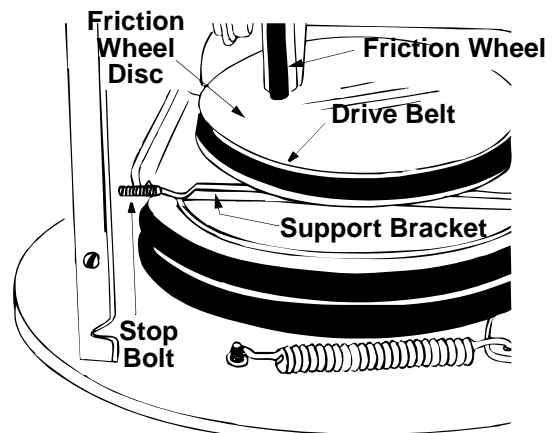

Figure 31
7. Back out the stop bolt to allow the belts to slip between the bolt and auger pulley. See Figure 31.
8. Lift the rear auger belt from the auger pulley, and slip belt between the support bracket and the auger pulley. See Figure 31. Repeat this step for front auger belt.
3. Back out the stop bolt until the support bracket rests on the auger pulley. See Figure 31.
4. Slip belt between friction wheel and friction wheel disc. See Figure 31. Remove and replace belt. Reassemble following the instructions in reverse order.
**NOTE:** The support bracket must rest on the stop bolt after the new belt has been assembled. See Figure 31.